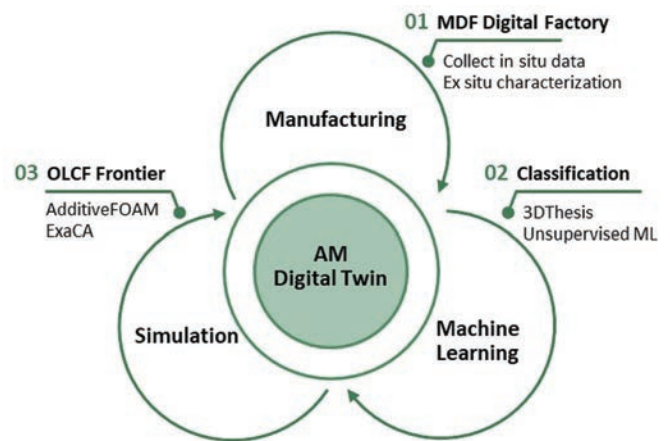

Figure 1. Process diagram of the AM digital twin utilizing ORNL’s MDF and the Oak Ridge Leadership Computing Facility (OLCF). (Credit: J. Coleman, ORNL).
a focused laser beam to create a dense part. The microstructure that develops as the metal solidifies is governed by the local heating and cooling cycles. Therefore, prediction of the resulting microstructure requires (1) details of the AM machine operation, (2) estimation of the thermal conditions and (3) a model for microstructure evolution during processing. As described below, a multiscale approach for predicting microstructure distributions in actual AM builds uses a variety of ORNL capabilities. Figure 1 provides a diagram of the approach to generating an AM digital twin.